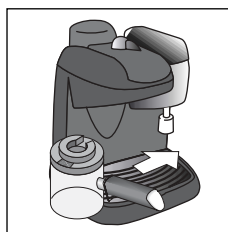

fig. 7
- 8 Place the carafe with the lid on the drip tray, make sure the nozzles on the filter holder fit inside the opening on the carafe's lid (fig. 7).